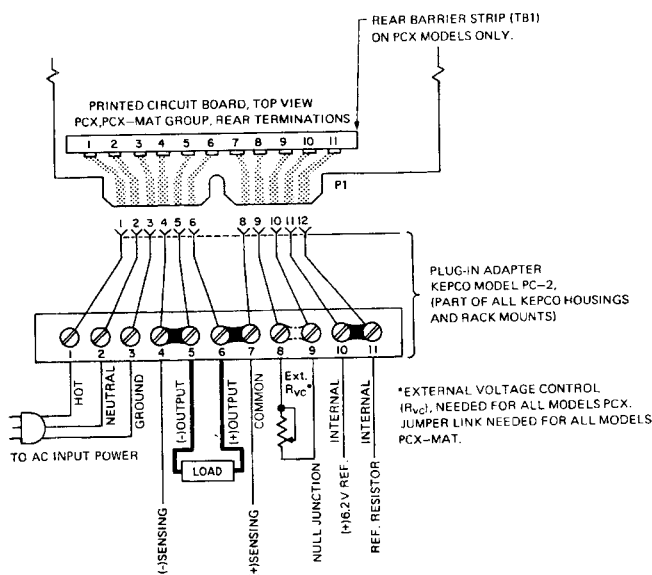

FIG. 3-1 REAR CONNECTIONS FOR
3-1 STANDARD OPERATION, LOCAL CONTROL (Refer to FIG. 3-1)
- 3-3 The load should be connected as shown (on PCX-MAT models, the load may be connected to the front terminals). Error sensing, as described below (Refer to paragraph 3-5) is recommended to insure specified performance directly at the load. Standard jumper link connections for local control are shown in FIG. 3-1 below. All load connections and jumper links must be tight and secure for proper operation. If the indicated Plug-In Adaptor (PC-2) is not used, the jumper links must be provided on the mating connector to P1. In the case of PCX Models which are equipped with their own miniature barrier strip (TB1), the jumper links on TB1 must be removed, if an adaptor (PC2—part of all cases and rack mounts) is used.
- 3-4 The connecting diagrams shown in the following paragraphs show ONE barrier strip only. This barrier strip represents the rear terminations of the PCX as well as that of the PCX-MAT group. The relationship between barrier strip terminals and pin numbers on P1 may be found by referring to FIG. 3-1. AC line connections (as shown in FIG. 3-1) have been omitted in order to simplify the presentation.